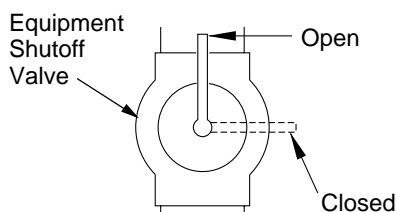

Figure 19 - Equipment Shutoff Valve
1. Close equipment shutoff valve (see Figure 19, page 15).
1. Open equipment shutoff valve (see Figure 19).